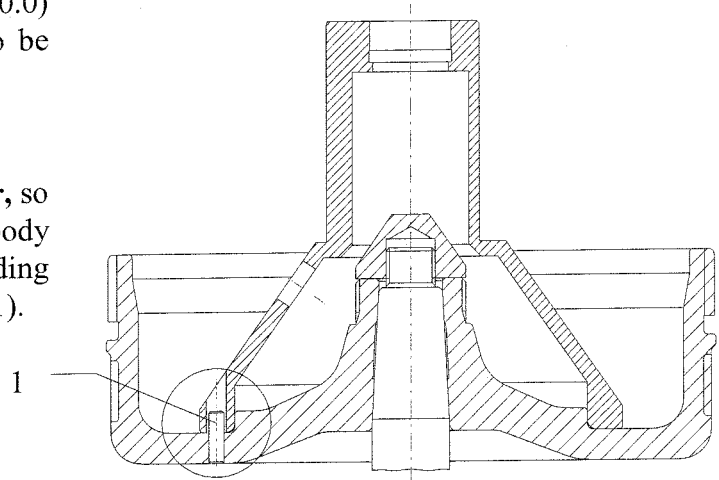

Figure 6.4
- 4) By hand place down the **distributor**, so that the guide pin of the bowl body enter correctly into the corresponding hole in the distributor (fig. 6.4 part 1).